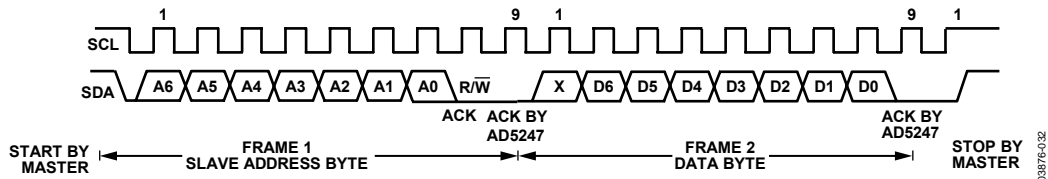
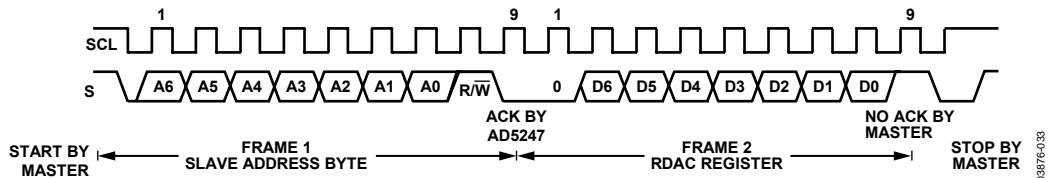

Figure 33. Writing to the RDAC Register
Figure 34. Reading from the RDAC Register
1. The master initiates a data transfer by establishing a start condition, which is when a high-to-low transition on the SDA line occurs while SCL is high (see Figure 33). The following byte is the slave address byte, consisting of the 7-bit slave address followed by an  $\overline{R/W}$  bit (this bit determines whether data is read from or written to the slave device). The slave, whose address corresponds to the transmitted address, responds by pulling the SDA line low during the ninth clock pulse (this is termed the acknowledge bit). At this stage, all other devices on the bus remain idle while the selected device waits for data to be written to or read from its serial register. If the  $\overline{R/W}$  bit is high, the master reads from the slave device. If the  $\overline{R/W}$  bit is low, the master writes to the slave device.
2. In write mode, after acknowledgement of the slave address byte, the next byte is the data byte. Data is transmitted over the serial bus in sequences of nine clock pulses (eight data bits followed by an acknowledge bit). The transitions on the SDA line must occur during the low period of SCL and remain stable during the high period of SCL (see Figure 33).
3. In read mode, after acknowledgment of the slave address byte, data is received over the serial bus in sequences of nine clock pulses (a slight difference from write mode, where eight data bits are followed by an acknowledge bit). Similarly, the transitions on the SDA line must occur during the low period of SCL and remain stable during the high period of SCL (see Figure 34).
4. When all data bits have been read or written, a stop condition is established by the master. A stop condition is defined as a low-to-high transition on the SDA line while SCL is high. In write mode, the master pulls the SDA line high during the 10th clock pulse to establish a stop condition (see Figure 33). In read mode, the master issues a no acknowledge for the ninth clock pulse (that is, the SDA line remains high). The master then brings the SDA line low before the 10th clock pulse, which goes high to establish a stop condition (see Figure 34).